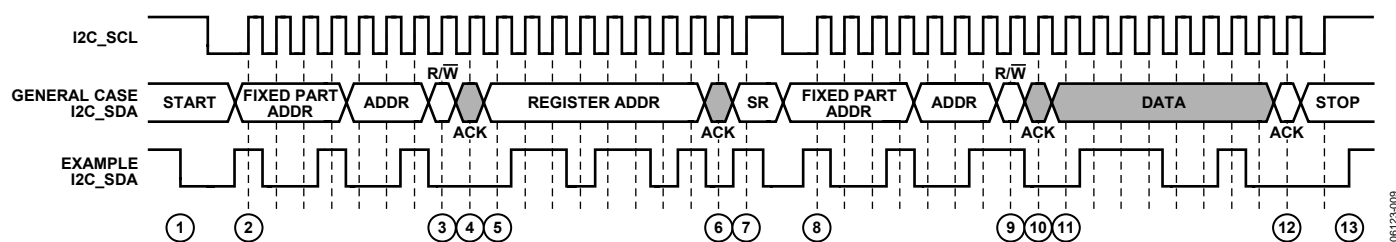

Figure 30. I²C Read Diagram
To read data from the AD8191 register set, an I²C master (such as a microcontroller) needs to send the appropriate control signals to the AD8191 slave device. The signals are controlled by the I²C master, unless otherwise specified. For a diagram of the procedure, see Figure 30. The steps for a read procedure are as follows:
9. Send the read indicator bit (1).
- 13a. Send a stop condition (while holding the I2C\_SCL line high, pull the SDA line high) and release control of the bus to end the transaction (shown in Figure 30).